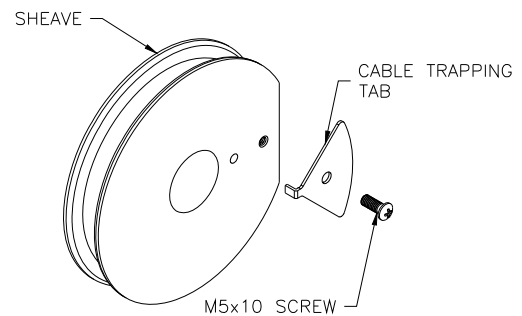

Fig 11b-Cable Trapping
- 22) The sheaves have a cable trapping tab that will need to be removed before routing the cables and reattached after. **Fig 11b**